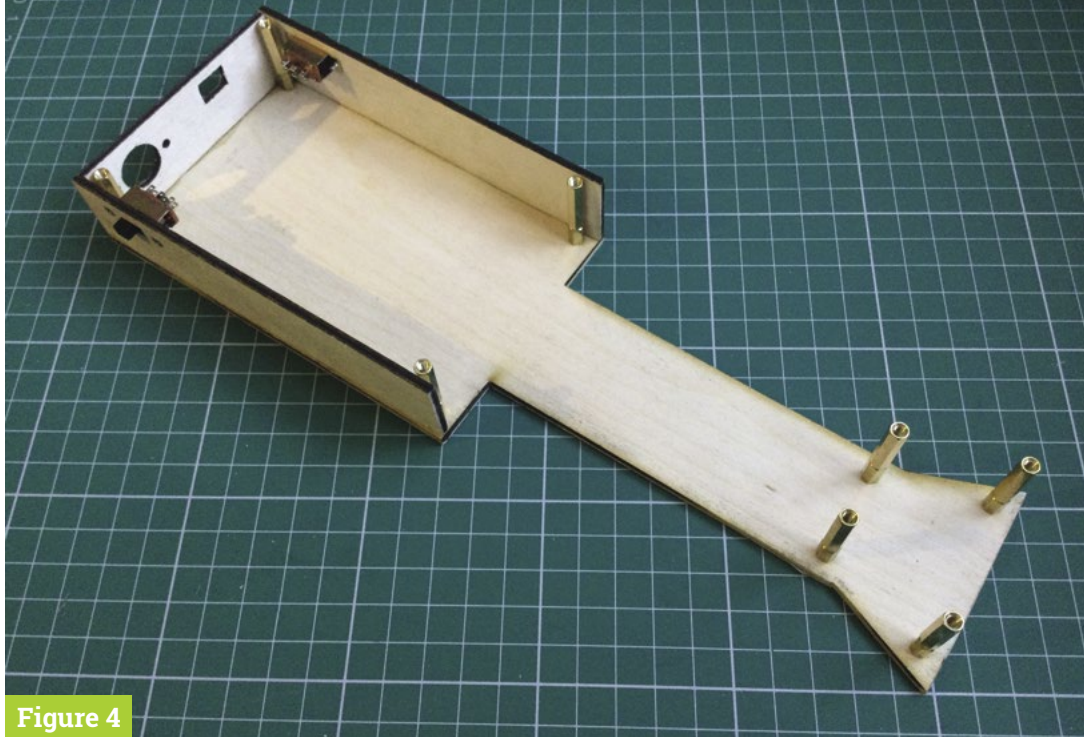

Figure 4
► Figure 4 Three sides added to the base
The top and the base were taped together, and the holes drilled through them both to ensure they aligned exactly. These holes are used for the pillars that hold the top and bottom apart, and should be countersunk on the outside. The sides of the guitar should be glued on one at a time to the bottom. We used superglue, and a small engineer's set square to make sure they were vertical. **Figure 4** shows when three sides had been added. The sides around the display need to be bevelled to fit, but all the other sides are butt joints.